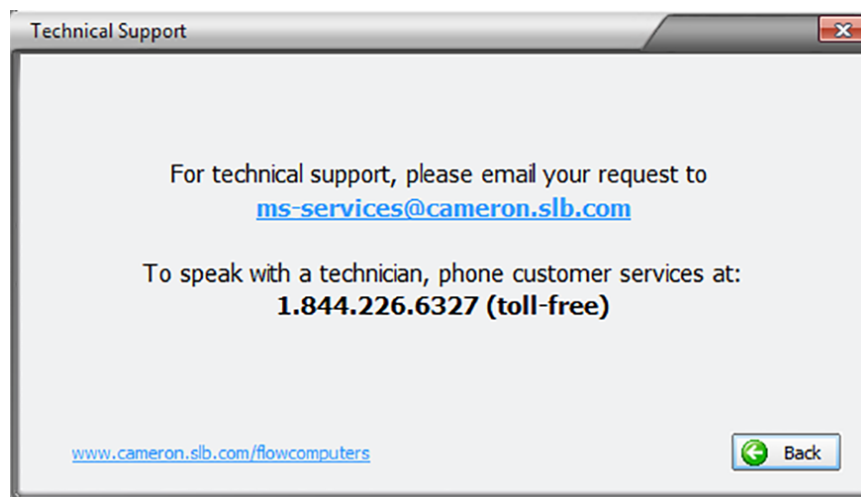

Figure 7.2—Technical Support screen
2. Click on the **Technical Support** button to access a phone number or email address for the regional Cameron office nearest you (Figure 7.2).